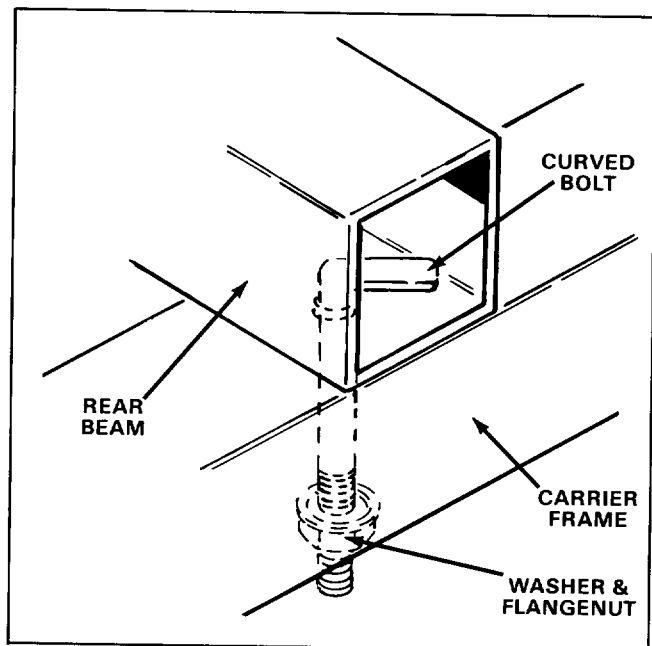

Figure 5
3. Using each mounting beam as a template, locate and drill (4) 1/2" dia. holes in carrier frame. (Step #3 pertains only to cutting deck carrier frames with serial numbers prior to 70001.)
4. On 44" bagging kits, insert flat end of curved bolt thru appropriate bottom hole in rear beam, then insert threaded end of bolt thru appropriate hole in carrier frame and secure with washer and flange nut. Repeat procedure on opposite side of rear beam (Fig. 5). Secure front beam to carrier frame with (2) 3/8 - 16 x 2-1/2" lg. capscrews, (4) flatwashers and (2) locknuts. Washers to be positioned on top of beam and under carrier frame.